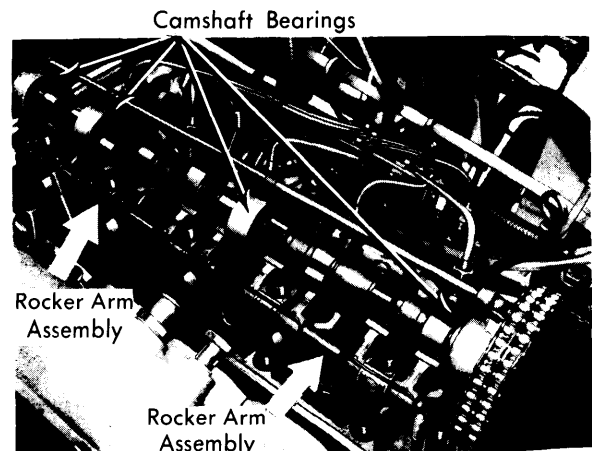

Fig. 8 Rocker Arm Assemblies and Camshaft Bearings
1) Remove camshaft sprocket and rocker arm assemblies. See Fig. 8. Disconnect external camshaft oiling tube.